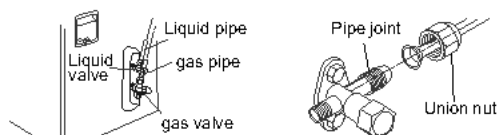

Fig.20
- (2) Remove the screw cap of valve and aim the pipe joint at the bellmouth of pipe.(As show in Fig.20)